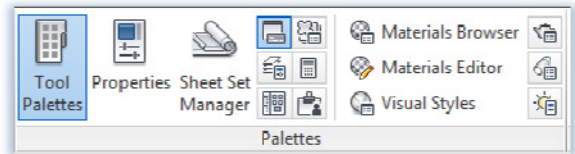

Figure 1
- Tools Menu → Palettes → Tool Palettes (Figure 1).